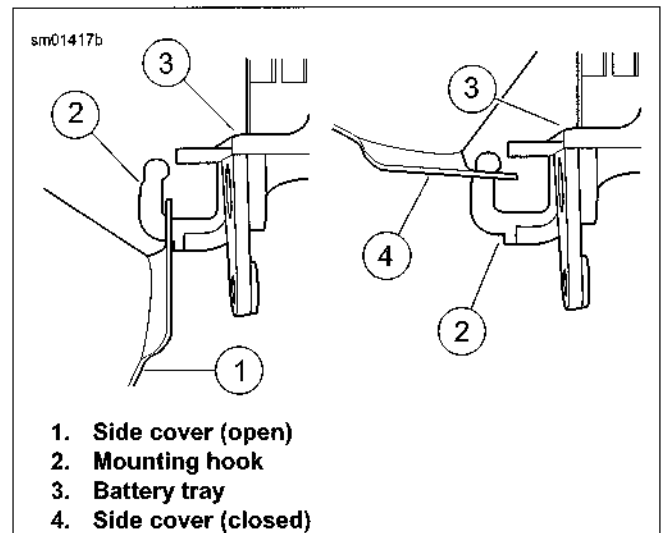

Figure 2-85. Bottom Mount
3. See Figure 2-85. With a slight back and forth rocking motion, pull up and out to disengage cover (1) from mounting hook (2) on battery tray (3).